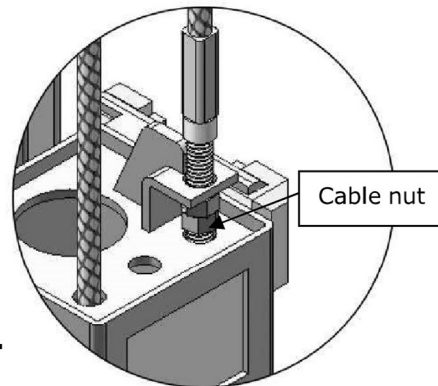

Fig. 44
1. Adjust synchronous cable (See Fig. 44)